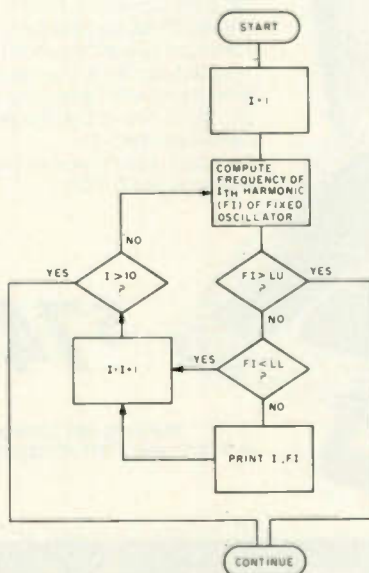

Fig. 1. Flowchart of the routine which searches for harmonics of the fixed oscillator.
Flowcharts of each of the latter four sections are shown in Figs. 1, 2, 3, and 4. Most of the terms which are used in the flowcharts differ from the corresponding terms in the listing of the program, Fig. 5. The terms in the flowcharts were chosen to help make the logic clear. They can't be used in the program because of the restriction in BASIC concerning the number of characters in
Fig. 1 is a flowchart of that part of the program which searches for harmonics of the fixed oscillator that fall within the range of interest. Starting with $I = 1$, the program computes the I th harmonic of the frequency of the fixed oscillator (FI) and compares it with the limits of the range of interest (LL and LU). If FI lies above the range, the program immediately branches to the next section, since all higher harmonics must also lie above the range. If FI falls within the range of interest, the order (I) and the frequency (FI) of the harmonic are listed. If FI lies below the range, the frequency of the next higher harmonic is screened.